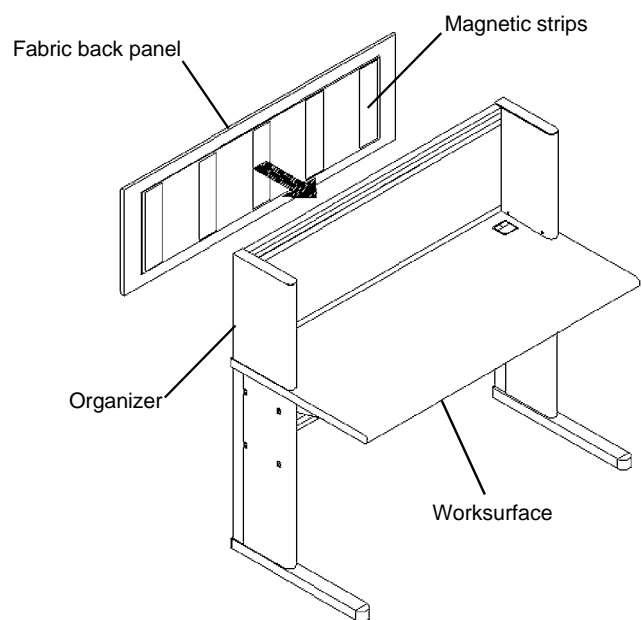

Figure 1
1. The **Tackable Fabric Back Panel** has magnetic strips which allows it to be installed on the back of a LINX Organizer. Position the panel on the back of the organizer and adjust it vertically or horizontally as necessary. See **Figure 1**.